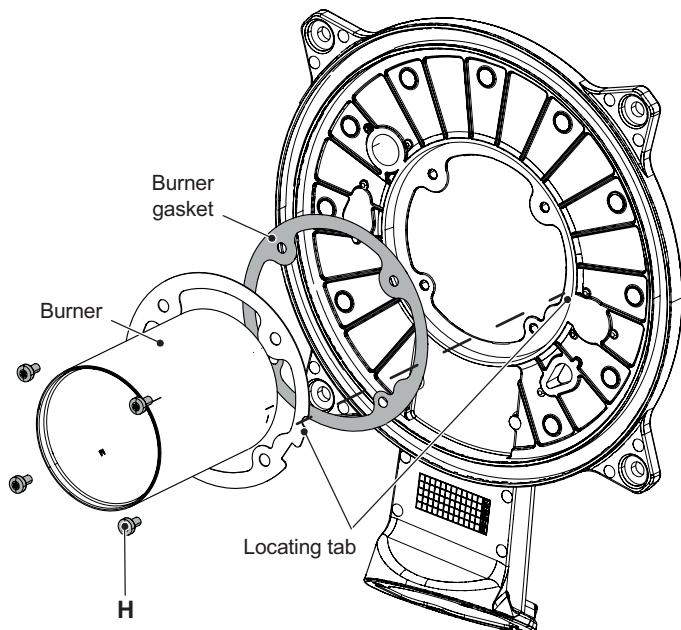

Figure 18.4
- 5 Unscrew the screws "H" (Figure 18.4) and remove the burner.
reverse order. Ensure the burner is correctly located by lining up the locating tab (Figure 18.4).